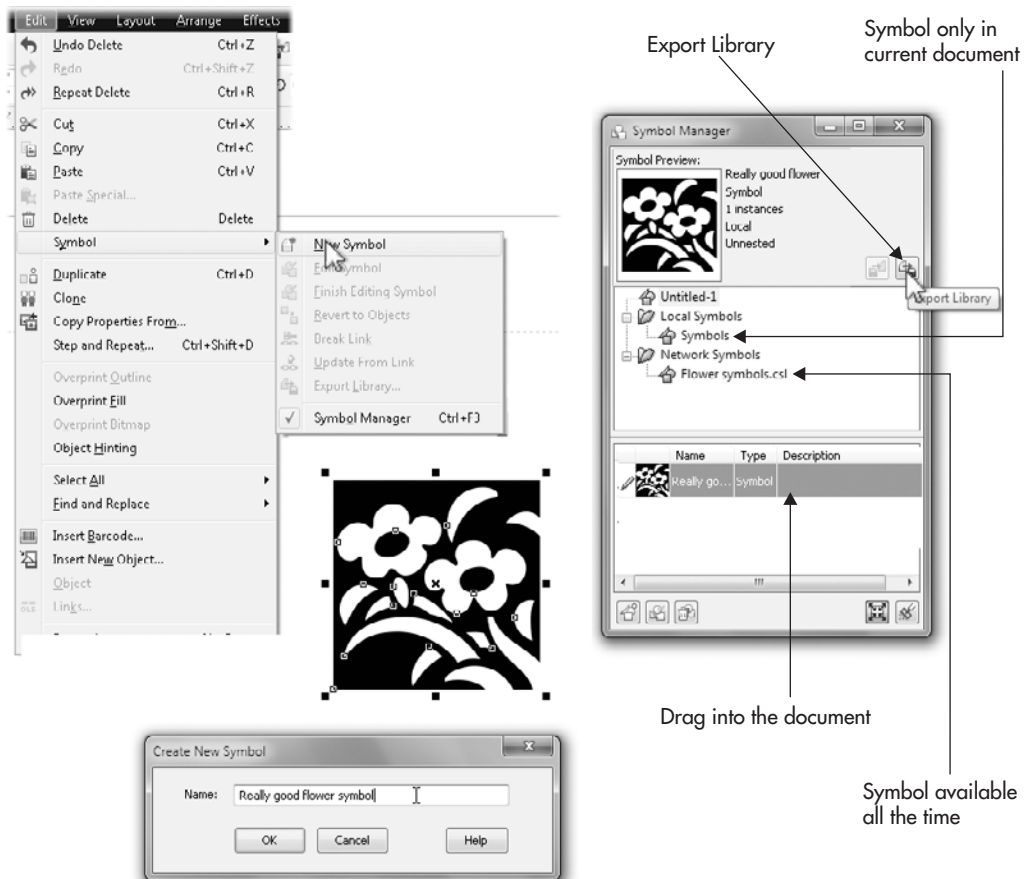

FIGURE 13-7 Define a symbol and then save it to a Symbol Library.
2. In the Create New Symbol box, type a name you'll remember later in the Name field and then click OK. As you create more and more new files using CorelDRAW, you'll definitely want to stay tidy in your cataloguing work. Cross-referencing is a good practice; in Figure 13-7, the Name of the symbol refers to the typeface it was copied from. Later, it's easy to look up the name of the symbol and use it in a program outside of CorelDRAW.